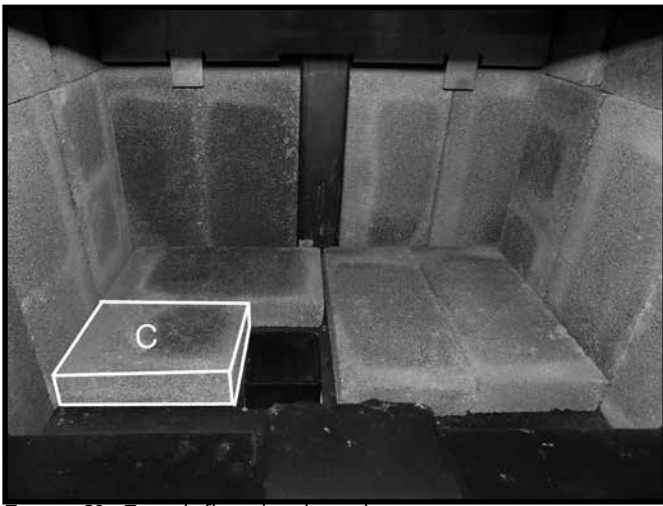

Figure 21. Fourth floor brick in place.
- Place the "C" firebrick so that it sits beside the ash dump, against the left-hand side wall and the "A" firebrick located directly behind the ash dump Figure 21. on page 15